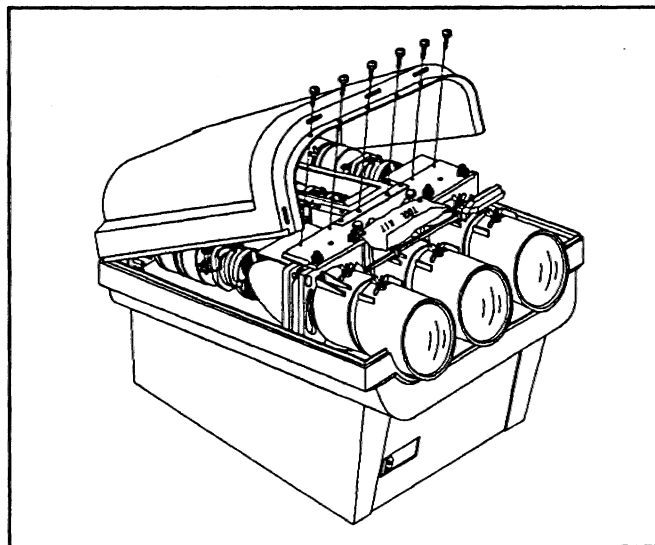

FIGURE 5-3. Rear Top Cover Removal
- b) Lift the top rear cover. See Figure 5-3.